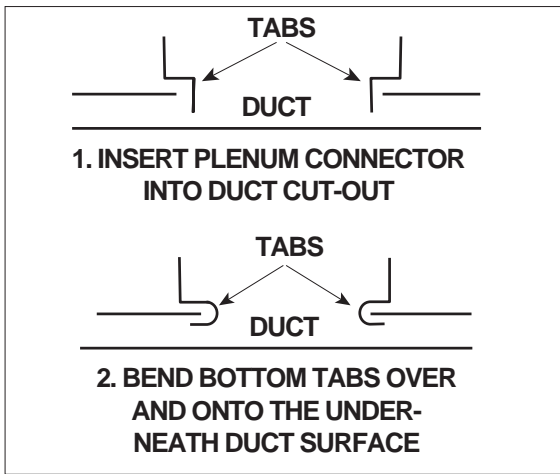

Figure 9. Plenum Connector Installation A
5. Secure connector to duct by bending bottom tabs under and up against duct surfaces (see Figure 9).